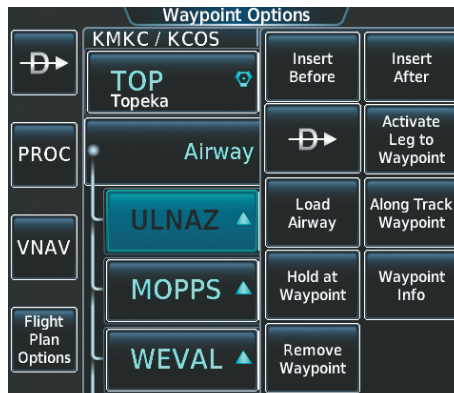

Figure 5-168 Activating V4 Leg
- a) Touch the **ULNAZ** Button to display the Waypoint Options Window as shown in Figure 5-168.